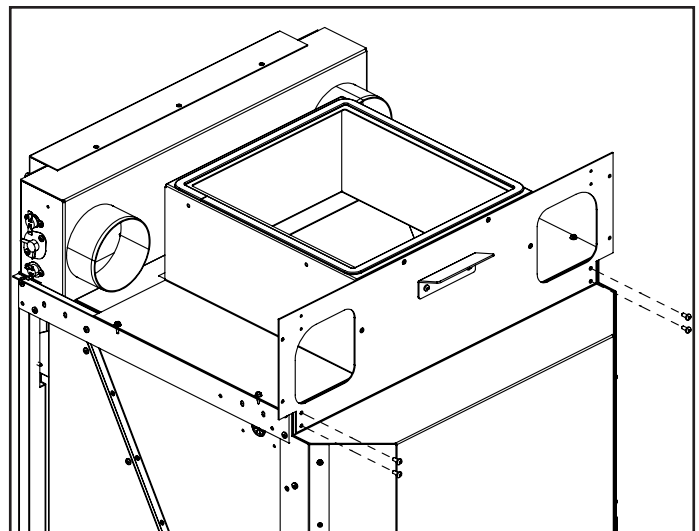

Figure 10: Back HDK assembly install.
10. Install Back HDK assembly, first attach back plate using the original screws and existing hinge mount holes, figure 10.